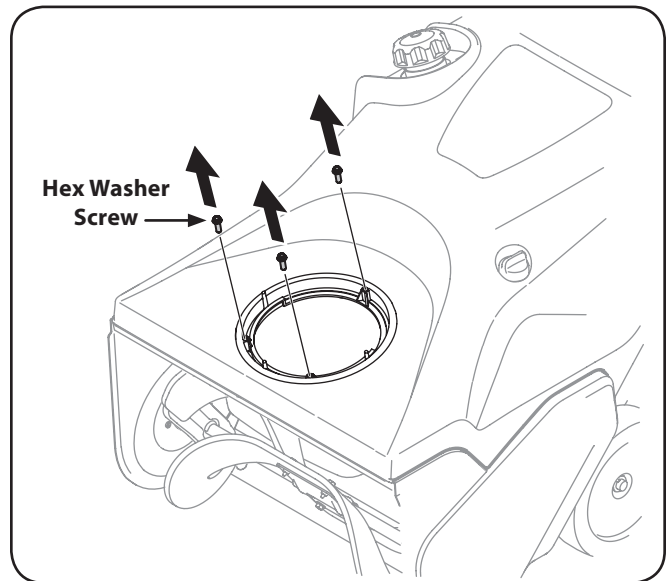

Figure 3-5
2. Remove the hex washer screws in the chute base. See Figure 3-5.